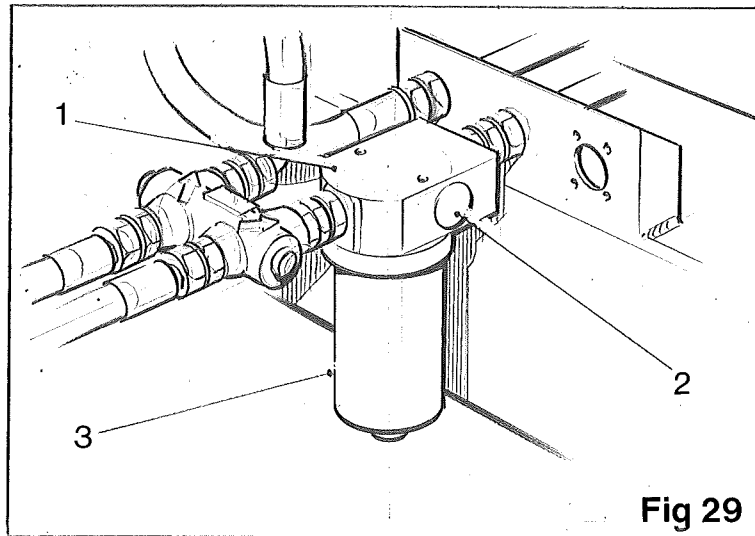
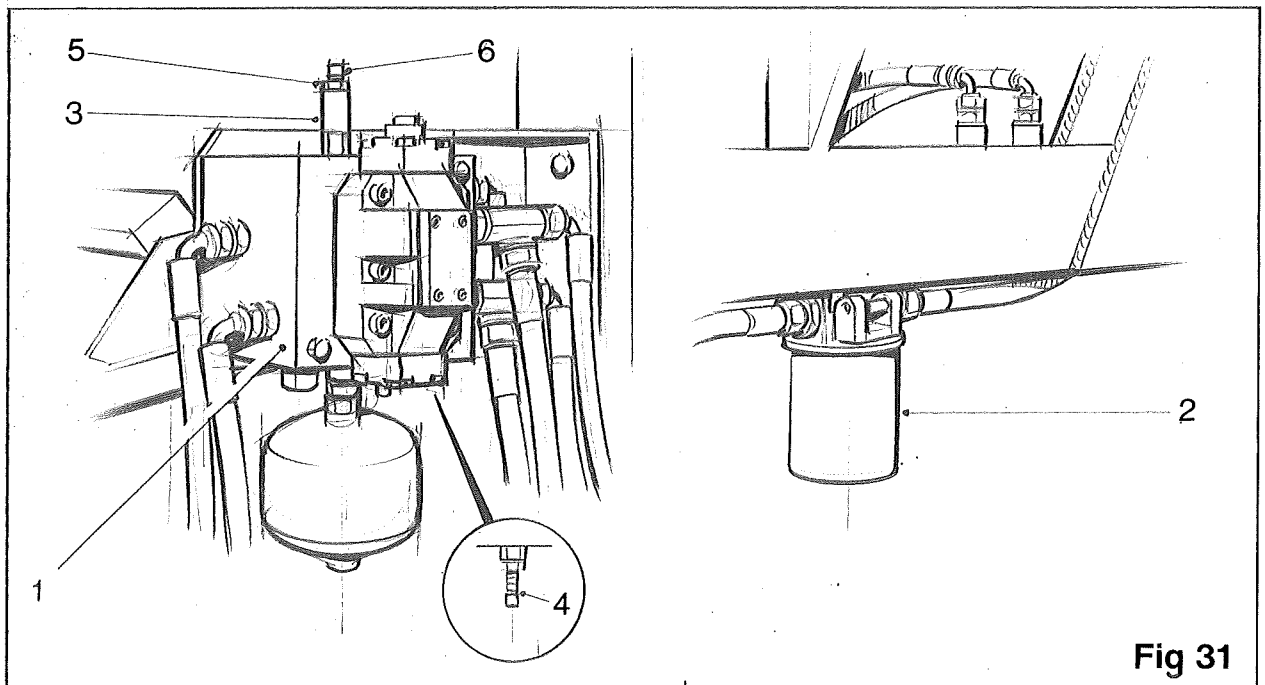

Fig 29
Fig 31
The hydraulic oil to operate the rams, and the discharge elevator, picking table and 'C' elevator motors is supplied directly from the tractor (for Roller Cleaner Motor Circuit see 'Cleaner Hydraulic System'). A schematic hydraulic layout is shown in fig. 34 depicting the main items of the hydraulic system. Control for the hydraulic system is provided electrically from the tractor mounted control box and is described separately. The only item requiring any maintenance is the pressure line filter (item 1, fig 29). When the indicator (item 2, fig 29) is pointing to the red segment, then the element (item 3, fig 29) will need replacing. To replace the element, simply unscrew it from the bottom of the filter assembly.
The pressurised oil then passes through the reversing valve unit (item 1, fig 31). This unit is designed to automatically reverse the roller direction for a few revolutions to release any object which cannot pass between the rollers, and then return the drive to the normal contra-rotating direction. The return oil from the motors passes back
through the reversing valve unit and is filtered through a 25 micron in-line filter (item 2, fig 31) mounted under the main frame beam, before returning into the main frame reservoir. This filter is fitted with a gauge, and should be changed if the red mark shows. A schematic hydraulic layout is shown in fig. 35.
The reversing valve unit (item 1, fig 31) is mounted on a bracket to the side of the main web side and is fully automatic in its operation. The reversing is actuated by a sequence valve (item 3, fig 31) which is mounted on the top of the reversing valve block. When an object starts to block the rollers, the operating pressure increases to the preset pressure of the sequence valve. Once this pressure is reached, the valve reverses the motors for a preset time; this time being controlled by a small bleed screw (item 4, fig 31) mounted beneath the valve block. This is factory set and should not need altering.
To increase the delay period, the bleed screw (item 4, fig 31) is screwed in, but care should be taken not to screw in fully as this will cause the rollers to stay in reverse.
The sequence valve is preset at the factory to operate at 1450 psi. In exceptionally stony or trash conditions, this setting may need to be increased to avoid the cleaner reversing too often. The pressure is increased by slackening the locknut (item 5, fig 31) screwing the top screw (item 6, fig 31). This MUST be done with a pressure gauge and throttle valve fitted between the pressure port of the reversing valve and the tee connection which separates the oil flow to the two motors. Should this equipment not be available, then consult your dealer.
FILTERS (item 1, fig 29 and item 2, fig 31):